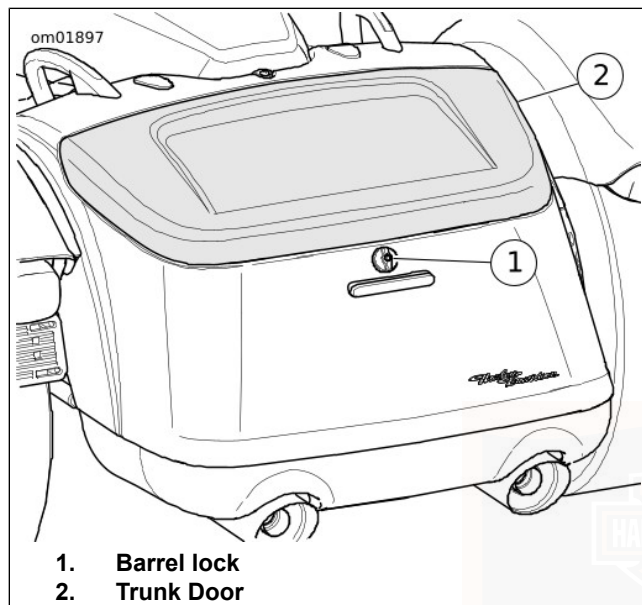

Figure 49. Trunk (typical)
2. See Figure 49. Turn the barrel lock clockwise to unlatch door. Open trunk door.